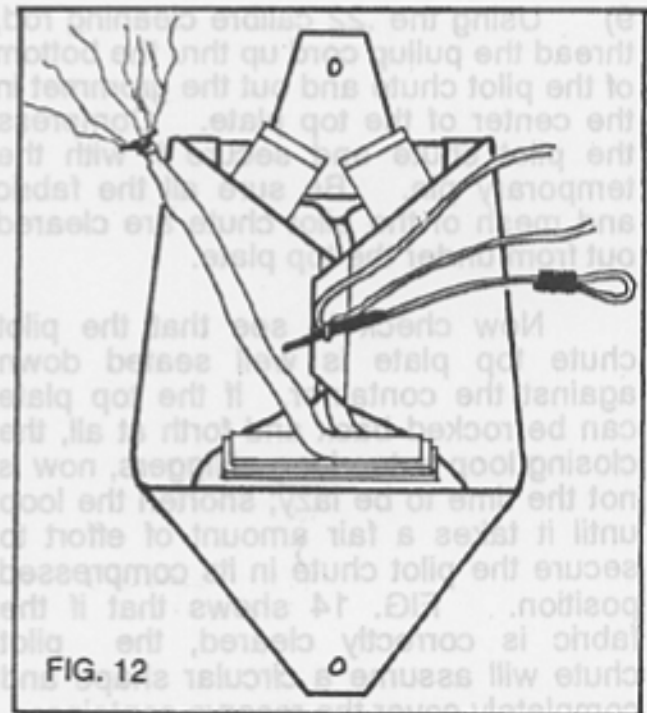

FIG. 12
7) Fold the bridle in "S" folds between the side flaps near the bottom of the reserve container as shown in FIG. 12. Make the stows as wide as possible, but not so wide that any of the bridle would be exposed when the bottom flap is closed. *Be sure that none of the bridle is tucked under either side flap!* Tucking any bridle under a side flap would tend to retard the launch of the pilot chute.